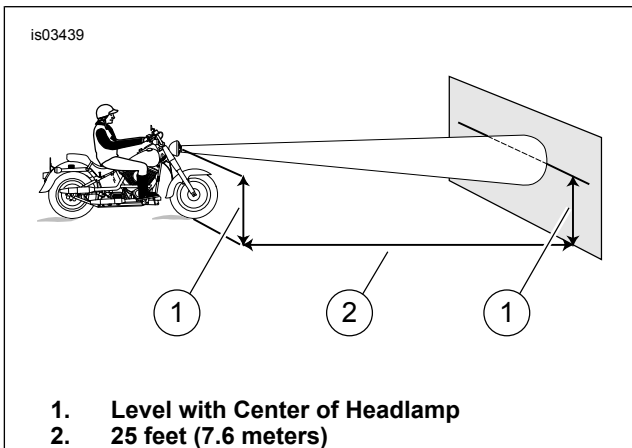

Figure 7. Headlamp Adjustment
3. See Figure 7. Position the motorcycle 7.6 m (25 ft) away from a screen or wall. Measure the distance from directly below the front axle to the base of the wall or screen.